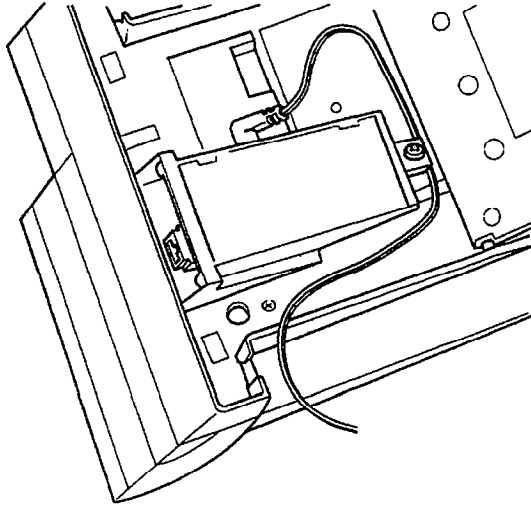

Figure 4-51 Leading the AC Adapter Cord out from the Unit
5. Plug the cord of the ACA-U Unit in the jack on the APR-U Unit. The ACA-U Unit is a separate unit that can be purchased from NEC. Lead the AC Adapter cord out through the groove in the base as shown in Figure 4-51 Leading the AC Adapter Cord out from the Unit.